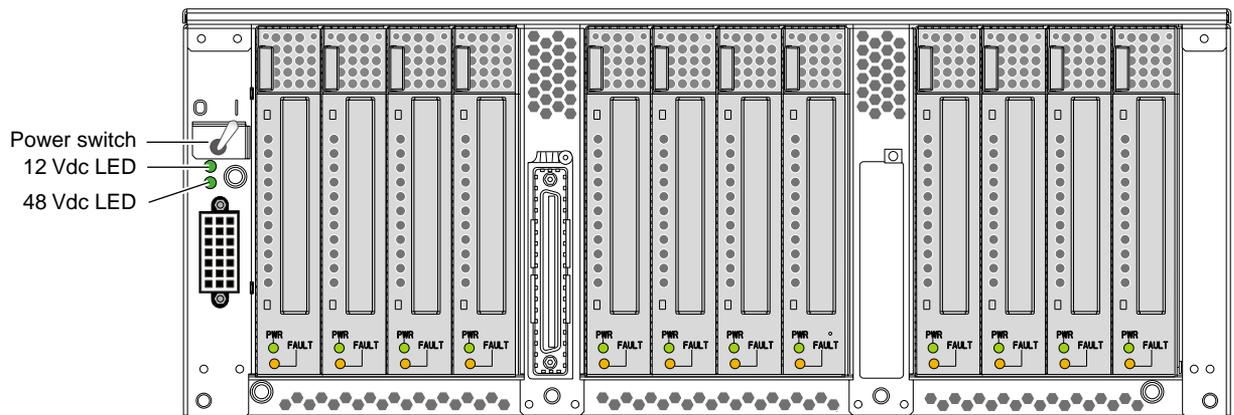

Figure 2-7 Power Switch at the Rear of the Module
1. Power on the L1 controller by setting the power switch on the rear of the module to the **1** position. Refer to Figure 2-7. The 12 Vdc LED, which is located on the rear of the module, illuminates when the L1 controller is powered on.
5. Power off the L1 controller by setting the power switch on the rear of the module to the **0** position. Refer to Figure 2-7 on page 27.
2. Power off the L1 controller by setting the power switch on the rear of the module to the **0** position. Refer to Figure 2-7 on page 27.